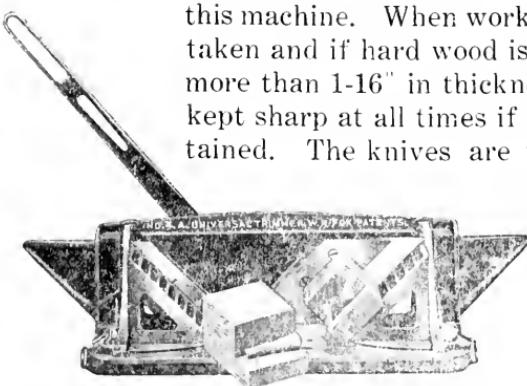

Fig. 58—TRIMMING INTO A CHECK
63. General. Trimmers-- Figs. 58 to 62, were invented primarily for the use of pattern makers and when used for other processes should be used only after you have learned to perform these operations thoroughly and quickly by hand. This machine, like the miter saw, should not be used by beginners in order to avoid learning to do the various process by hand. Always take very thin cuts when using this machine. When working soft wood $\frac{1}{8}$ " cut may be taken and if hard wood is used, the cut should not be more than 1-16" in thickness. The machine must be kept sharp at all times if good results are to be obtained. The knives are very hard and in grinding should be ground with a very slight concave bevel. The back side must be kept perfectly straight.
show the possible range of work by means of auxiliary gauges which are furnished with most trimmers. Fig. 58 illustrates the trimming of a shoulder for either a half lap or a tenon. This is called trimming into a check. The gauge as well as the knife stands at an angle of 45 degrees, which makes it possible to trim down to the bottom leaving a square and smooth surface.